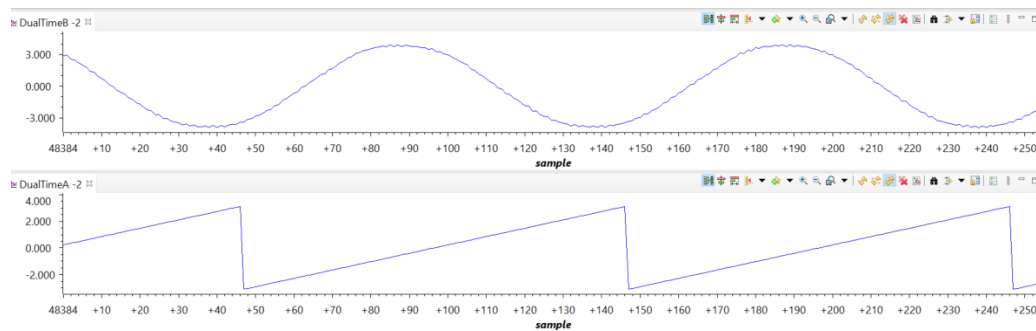

Figure 12 Using Angle and Phase A Current
- Change `bufferMode` to `Graph_PH_B_VIEW` by setting `gGraphVars.bufferMode`, and set `gStepVars.stepResponse` to "1" in Expression Window, this will graph the using angle for motor drive and phase A sampling current as shown in Figure 12.